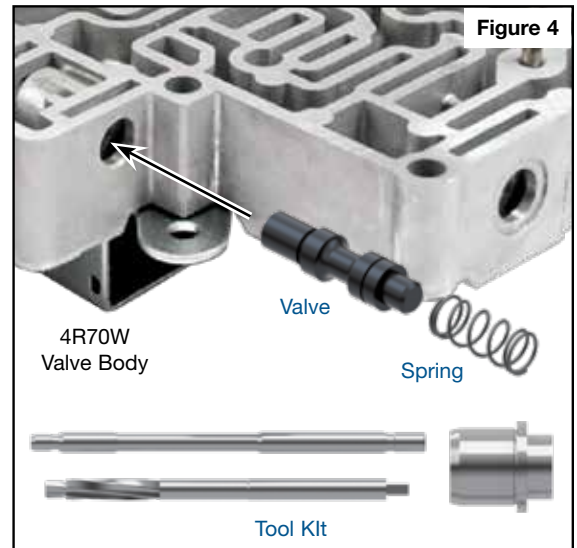

Figure 4
Step 2 Ream Solenoid Regulator Valve Bore (Figure 4)
Step 7 Install Oversized Solenoid Regulator Valve (Figure 4)